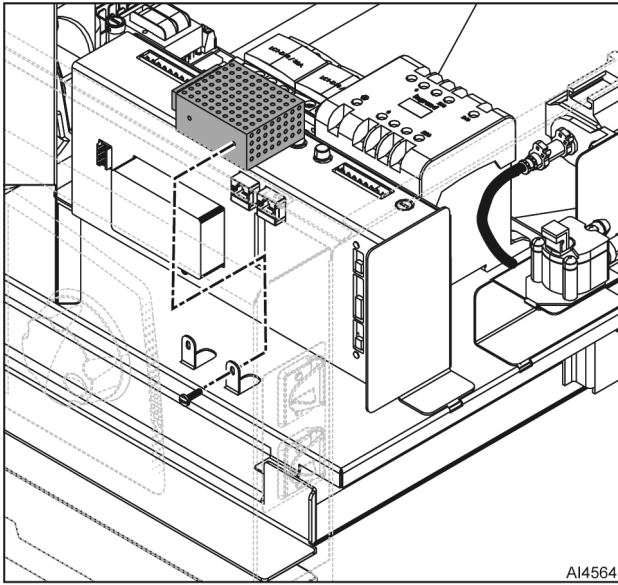

Fig. 11
3. Remove two screws and light transformer (Fig. 11).